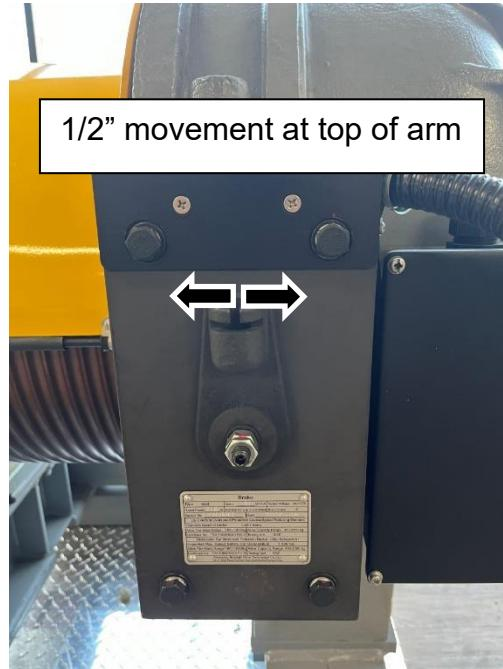

Figure 13
- Manual release arm “free travel is factory set to $\frac{1}{2}$ ” both directions. See Figure 13.